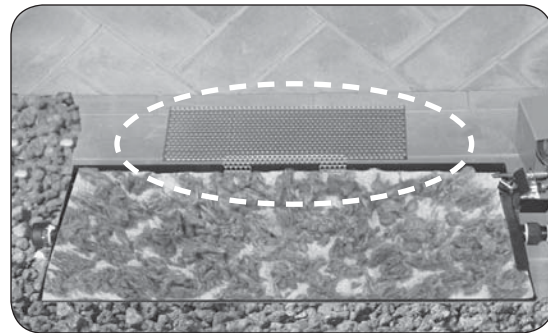

Fig. 20-1 Attach screen (if applicable)
1. Attach the ember screen to the burner by slipping it onto the back edge (center left to right) with the perforated section facing towards the back fireplace wall (Fig. 20-1).